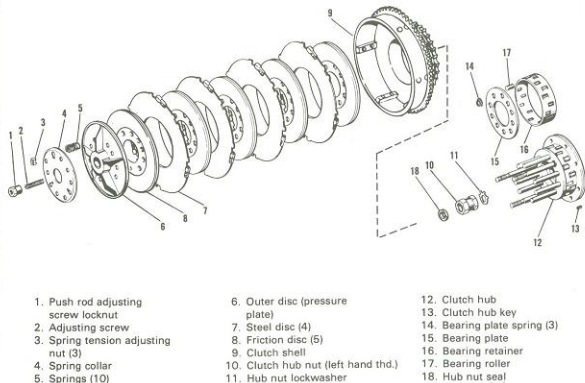

Figure 4-4. Clutch Assembly - Exploded View
DISASSEMBLING CLUTCH (Figure 4-4)
ASSEMBLING CLUTCH (Figure 4-4)
Place oil drain pan under transmission. Remove starter cover nuts (1) and plain washers (2). Loosen clutch adjusting screw (2, Figure 4-4). If transmission is in chassis, remove clutch lever rod from left end of clutch release lever. Remove exhaust pipe and other components mounted on transmission cover studs. Cover assembly with clutch release lever, assembly is then free to be pulled off mounting studs. Clutch push rod assembly (3) will come off with cover. If starter cover binds, push rod is binding on starter clutch. Pry push rod off starter clutch. Do not pry cover for it will damage bearing. With starter cover removed, push rod (4) is free to be pulled out of mainshaft.